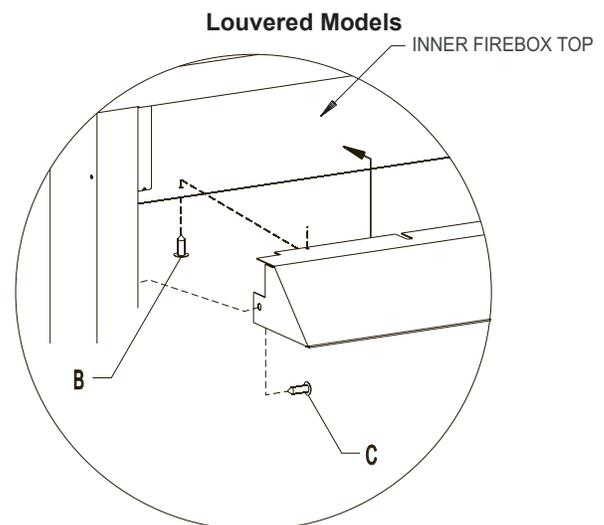

Figure 11
2. Place the top hood flange on top of the inner firebox top, then install three screws through the firebox top from below and screw into the pilot holes in the hood flange (B).
3. Install one (1) screw at each end of the hood as shown (C).
**CAUTION: All hoods must be installed prior to operation of appliance. See Figure 11.**